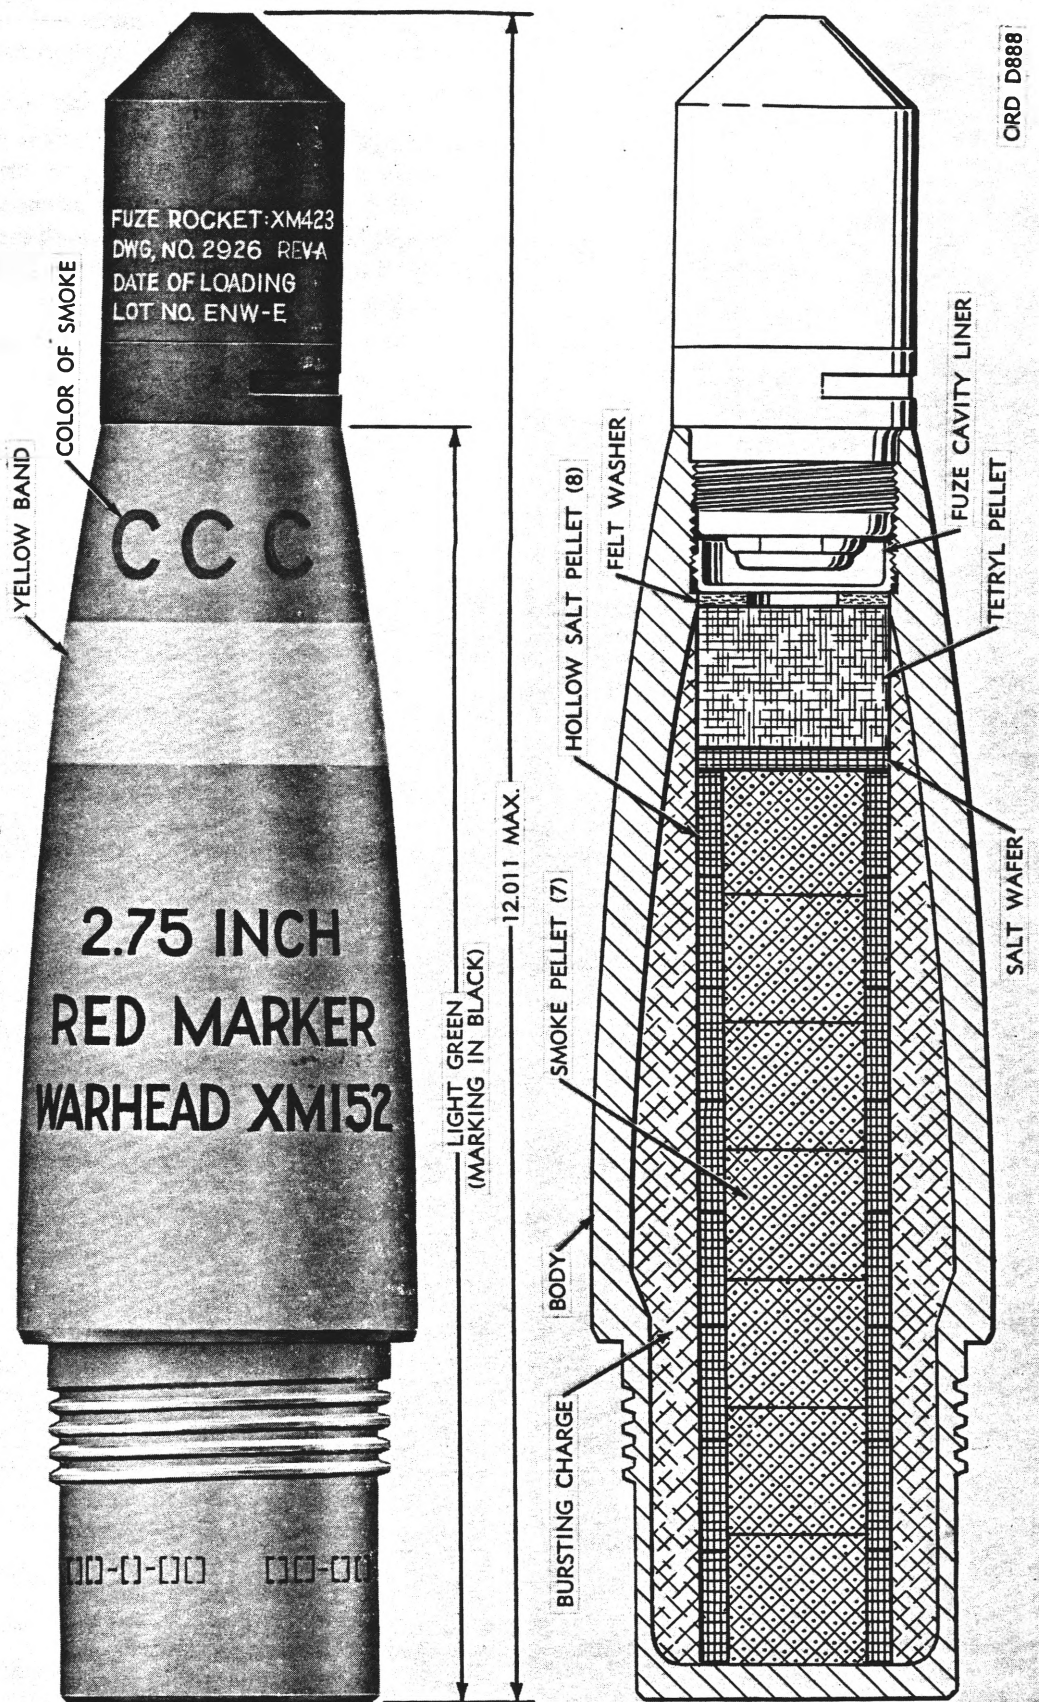

Figure 3. Target marker (HE) warheads XM152 or XM156.
c. Target marker high-explosive (HE) (fig. 3), which contains explosive and smoke dye, is intended for blast, fragmentation and demolition effect and for target marking. Target marker heads are available in yellow and red smoke.
(4) *Target Marker (HE), red smoke warhead XM152.* The target marker (fig. 3), loaded with baratol bursting charge, red smoke dye pellets, salt pellets and a tetryl pellet, uses modified Mk 1 and Mods metal parts.
(5) *Target marker (HE), yellow smoke XM153.* This target marker (fig. 3), loaded with baratol bursting charge, yellow smoke dye pellets, salt pellets, and a tetryl pellet, uses modified Mk 1 and Mods metal parts.